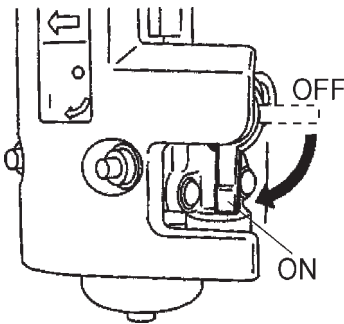

Figure 11. Engine Fuel Valve Lever (ON Position)
1. Place the engine **fuel valve lever** (Figure 11) to the "**ON**" position.